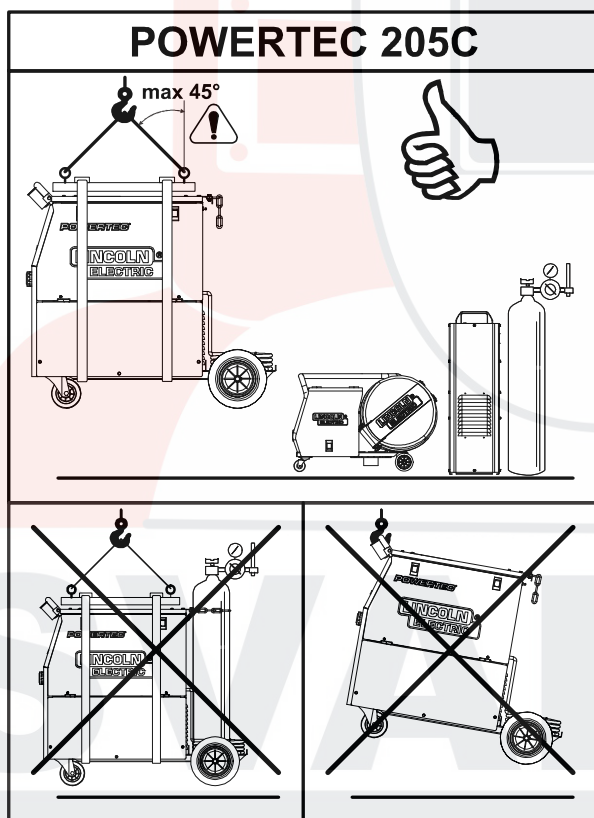

Figure 20.
To safety transport and lift POWERTEC 205C (see the Figure 20):
- Use equipment of adequate capacity to lift and support unit. Use a travers and minimum two belts as is shown of Figure 20.
- Apply load axially in 45 degree angle in accordance to the Figure 20.